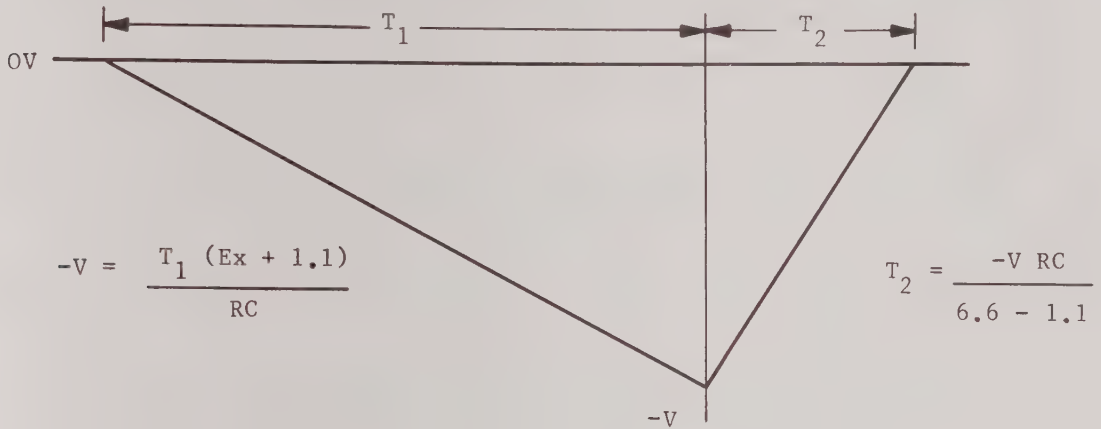

FIGURE 2-3. INTEGRATOR OUTPUT
f) The integrator output will move negative in a ramp-like fashion (see Figure 2-3), feeding back a correction voltage to maintain the summing junction at -1.1v. As a result, a current flows through the 500k ohm resistor proportional to the pre-amp output plus 1.1v. This current charges C82. Because the integrator is an FET input amplifier with very high input resistance, C80 will not discharge.
Figure 2-3 illustrates the integrator output and gives the pertinent equations for the signal integrate and reference integrate cycles. Solving the two expressions for $-v$ gives: